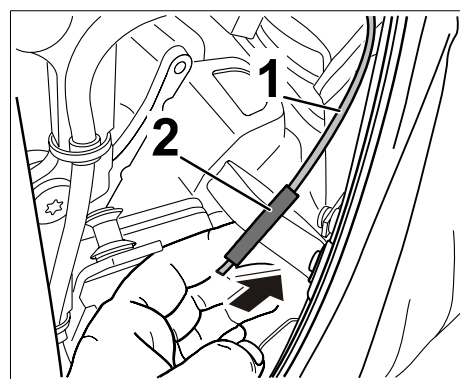

Figure 8
- 3.2 Pull shrink-fit hose $\Rightarrow$ *Figure 8 -Pos. 2-* up over the tension rope you have just cut $\Rightarrow$ *Figure 8 -Pos. 1- ($\Rightarrow$ Figure 8 -Arrow-).*